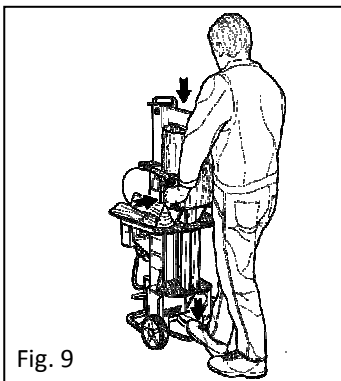

Fig. 9
The machine is designed to be used by a single operator who must be positioned in front of the log splitter control levers. (Fig. 9)
3. **operation:** keep the pedal pressed down, take hands off the wooden log (which now is kept centred by the cutter), place hands on the lever controls (see fig. 9) and operate both of them together.